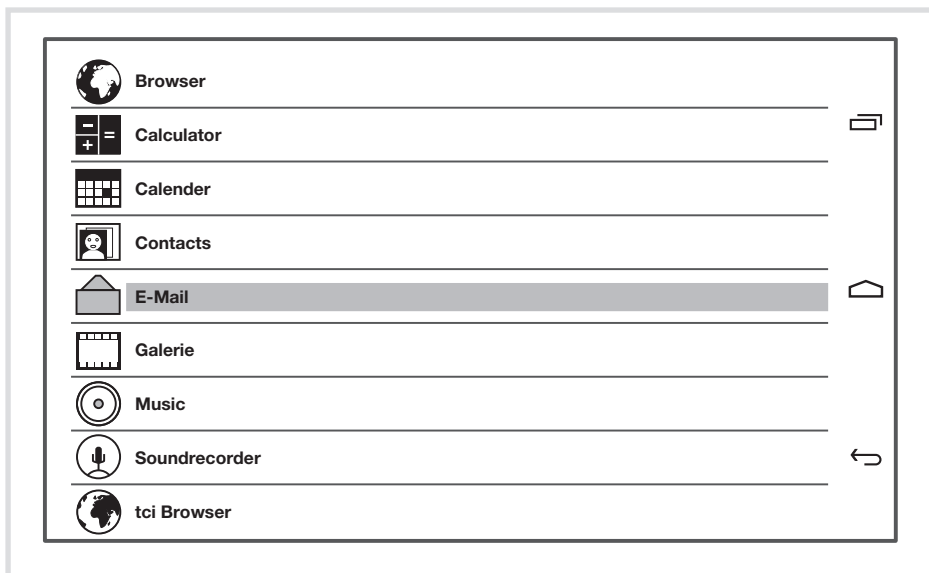

Figure 7: App selection
The dialog window for the App selection opens (Figure 7).
- With **Replace** open the dialogue window for App selection (Figure7), select another App and configure its display (see Assigning application to a control panel).